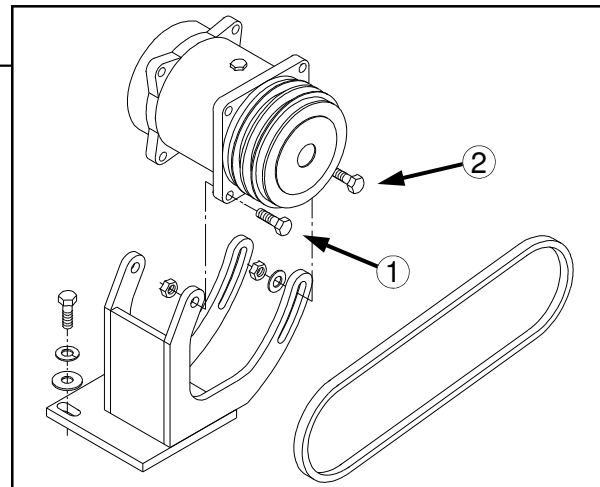

FIG 6.17-4
**A/C COMPRESSOR BELT**– To tighten air conditioner compressor belt, loosen the two pivot bolts (fig. 6.17-4, item 1) and the two slide bolts (fig. 6.17-4, item 2). Using a suitable prying tool, adjust tension on the belt to the desired tautness. While maintaining tension, re-tighten all four bolts. Inspect belt every 250 hours.